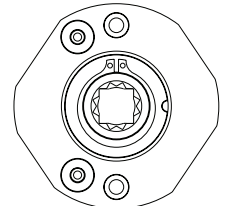

Figure 21
2. Align adapter plate hub with square hole in lever; keep hub as tight as possible. (Figure 21)